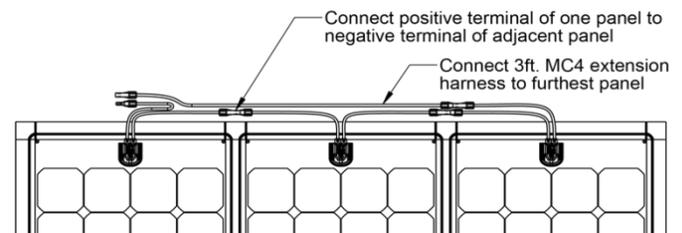

FIGURE 3
6. Use the MC4 cables that are connected to the solar panel junction box. Connect the positive MC4 connector to the negative connector of the adjacent panel. This will connect the panels in series and compound the output voltage of the panel. Connect the 3ft. MC4 extension harness to the free connector of the furthest panel from where the solar extension will be routed from. (Figure 3)